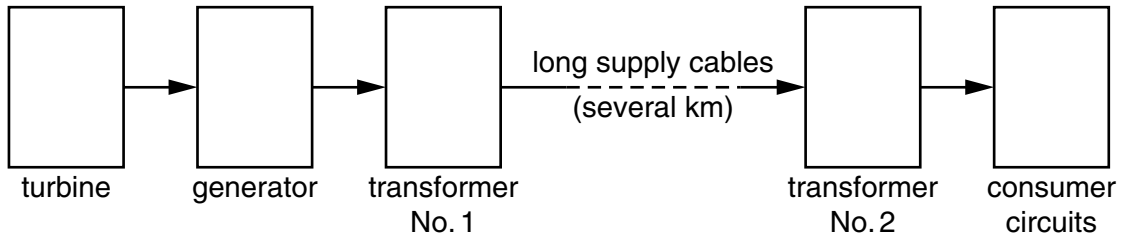

Fig. 4.1
- 4 Fig. 4.1 is a block diagram of an electrical generating and distribution system.